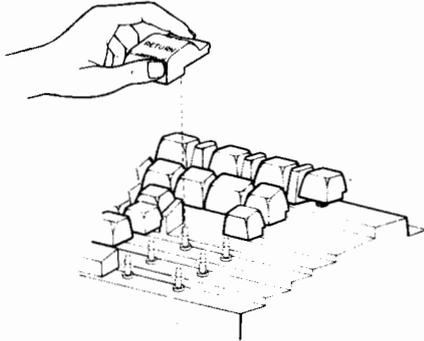

Fig. 42—Return Keytop Removal
- (a) Remove a minimal number of the surrounding keytops to allow the RETURN keytop to be grasped with the fingers. Remove by pulling up (Fig. 42).